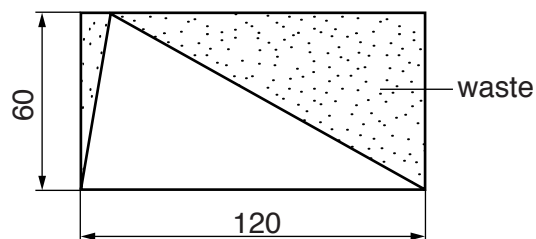

Fig. 7
- (a) Fig. 7 shows the stand for the photograph holder marked out ready to be cut to shape.